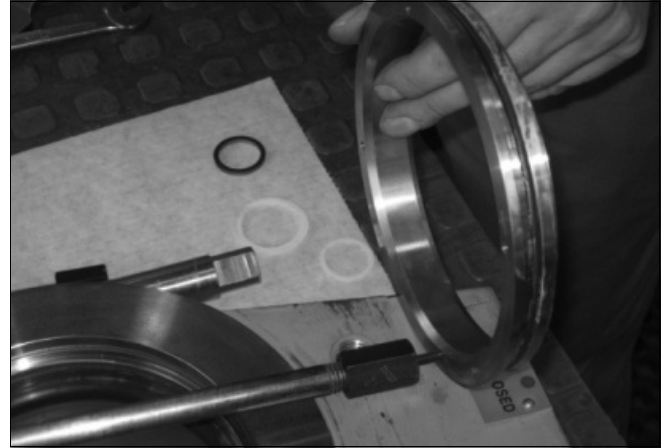

Fig. 30 Seal ring with O-ring
5. The sealing element (320) and the O-ring seal (304) can now be replaced (see fig. 30 – 32).